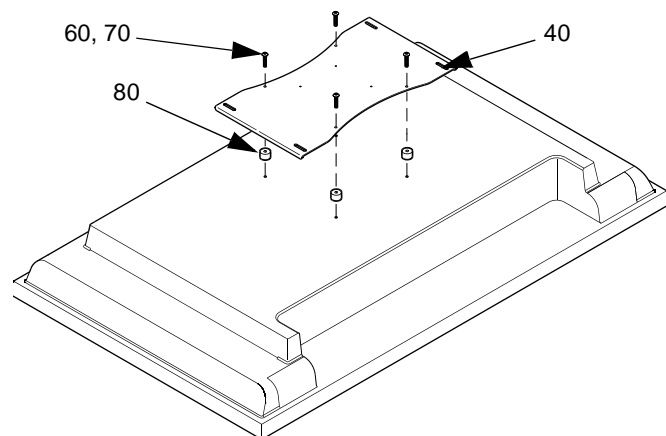

Figure 6: Attach Interface Bracket to Display
1. Select four M6 screws (60 or 70) and four spacers (80) from parts bag.
3. Install four M6 screws (60 or 70) into the four mounting holes on the interface bracket (40). (see Figure 6)